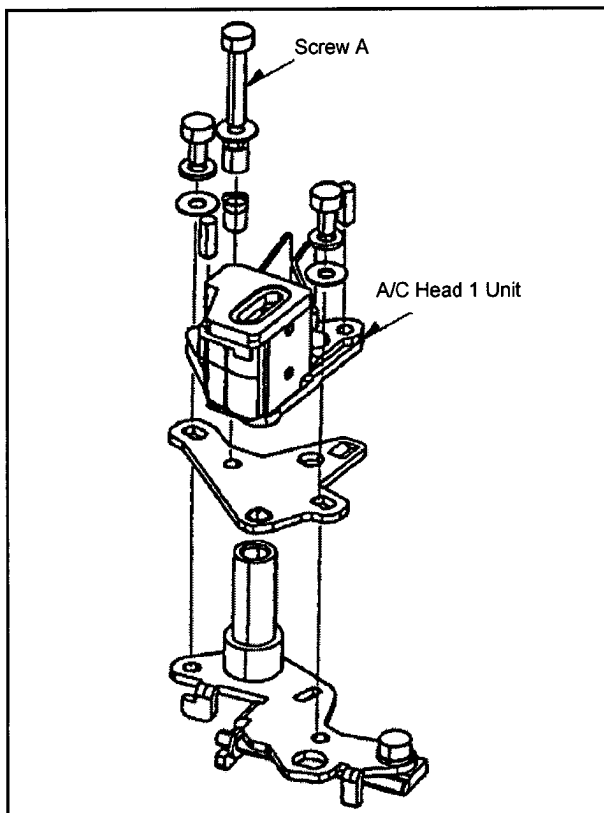

Fig. 4-7-1
1. Unscrew the spring screw (A) as shown in Fig. 4-7-1 and 4-7-2 and then remove the A/C Head 1 Unit.